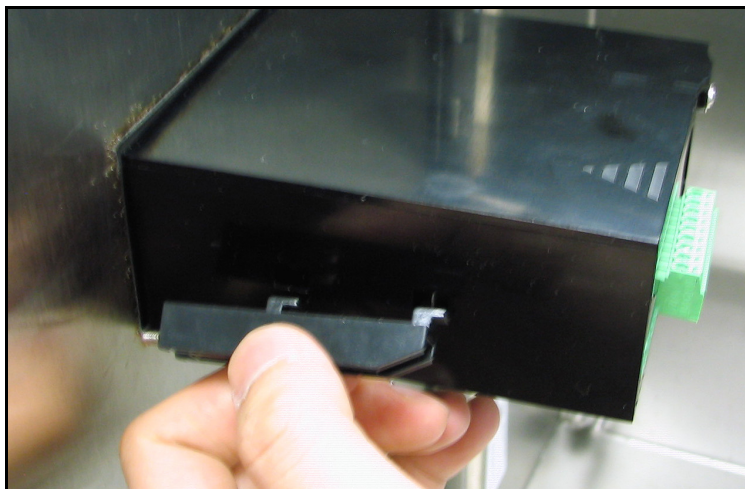

Figure 12: Installing the Mounting Brackets
4. Behind the panel, insert the mounting brackets into the side holes provided (see Figure 12).